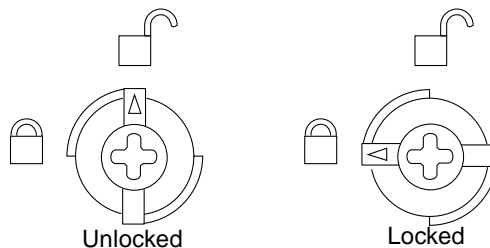

FIGURE 7-7 Quarter-Turn Access Slots
2. Release the power supply from the system chassis by inserting a Phillips No. 1 screwdriver into each quarter-turn access slot and then turning to the unlocked position (FIGURE 7-7).
Swing the lever inward to the locked position. Do not press on the front panel of the power supply to seat it—doing so will damage the connector pins.(FIGURE 7-7).
7. Lock the power supply to the system chassis by inserting a Phillips #1 screwdriver into each quarter-turn access slot and then turning to the locked position (FIGURE 7-7).